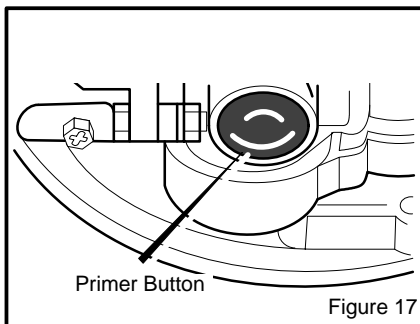

Figure 17
4. The **primer button** is on the side of the engine (Figure 17). Push the **primer button**. Every time you push the **primer button**, wait two seconds. For the number of times required to push the **primer button**, see the engine manufacturer's instructions.